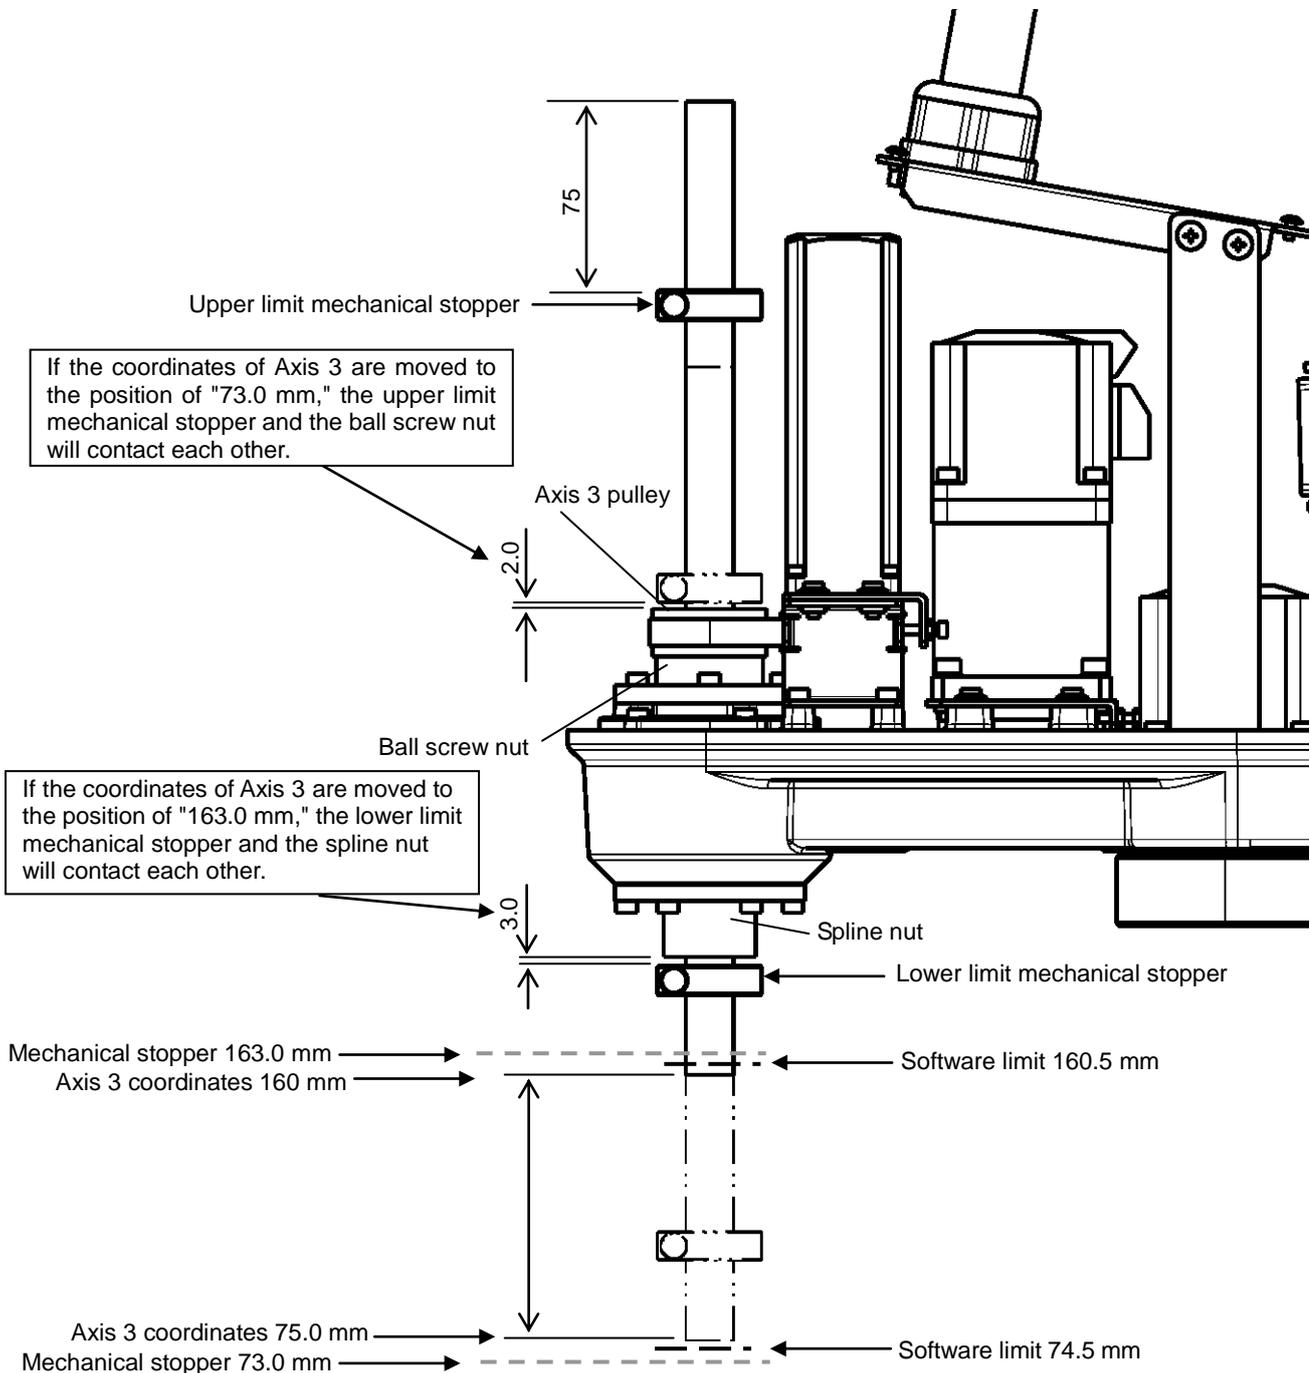

Fig. 7.8 Changing the Operating Range of Axis 3 (THL300 and THL400)
- 3) When the mechanical stoppers are changed, be sure to also change the software limits. Regarding how to change software limits, see Para. 7.2.4 and Fig. 7.8. After changing the software limit, while pressing the axis 3 brake release switch, move Axis 3 manually, and make sure that the software limit is correctly set.
Fig. 7.8 shows the settings of the operating range when the upper limit mechanical stopper is moved 75 mm downward.